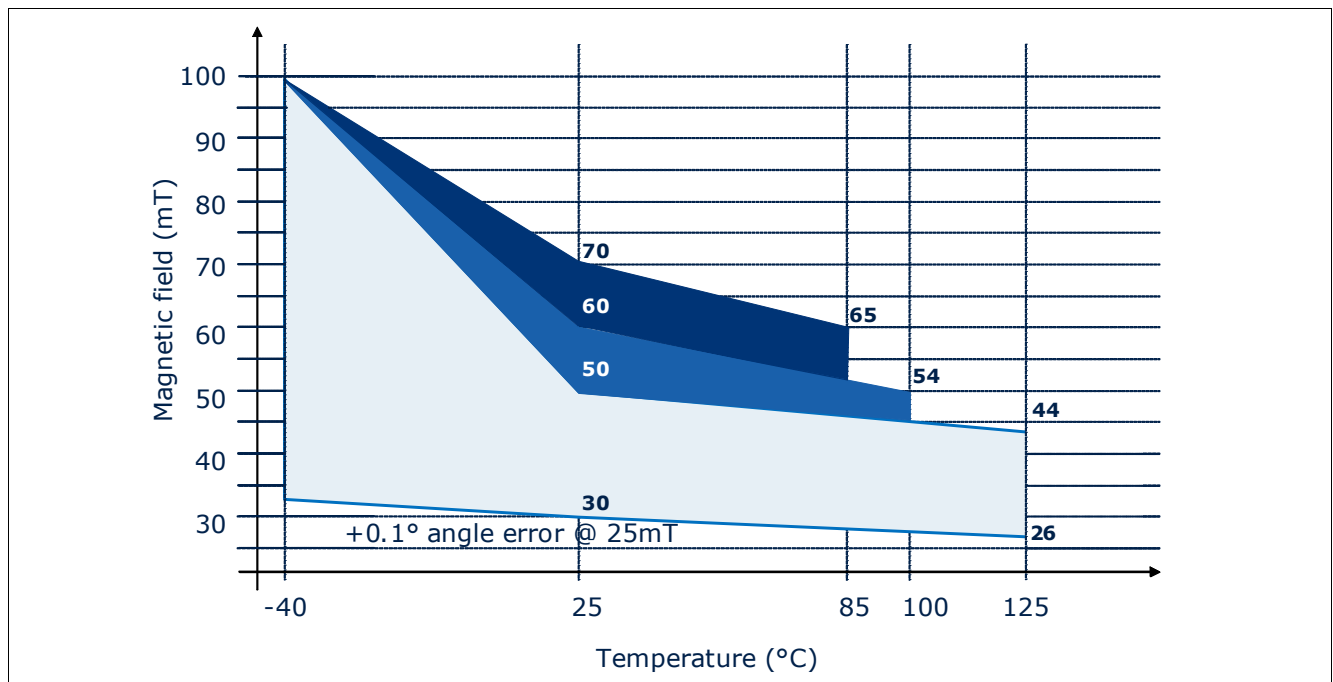

Figure 4-1 Allowed magnetic field range as function of junction temperature.
- 3) See Figure 4-1
The field strength of a magnet can be selected within the colored area of Figure 4-1. By limitation of the junction temperature, a higher magnetic field can be applied. In case of a maximum temperature T_J = 100°C, a magnet with up to 60mT at T_J = 25°C is allowed.